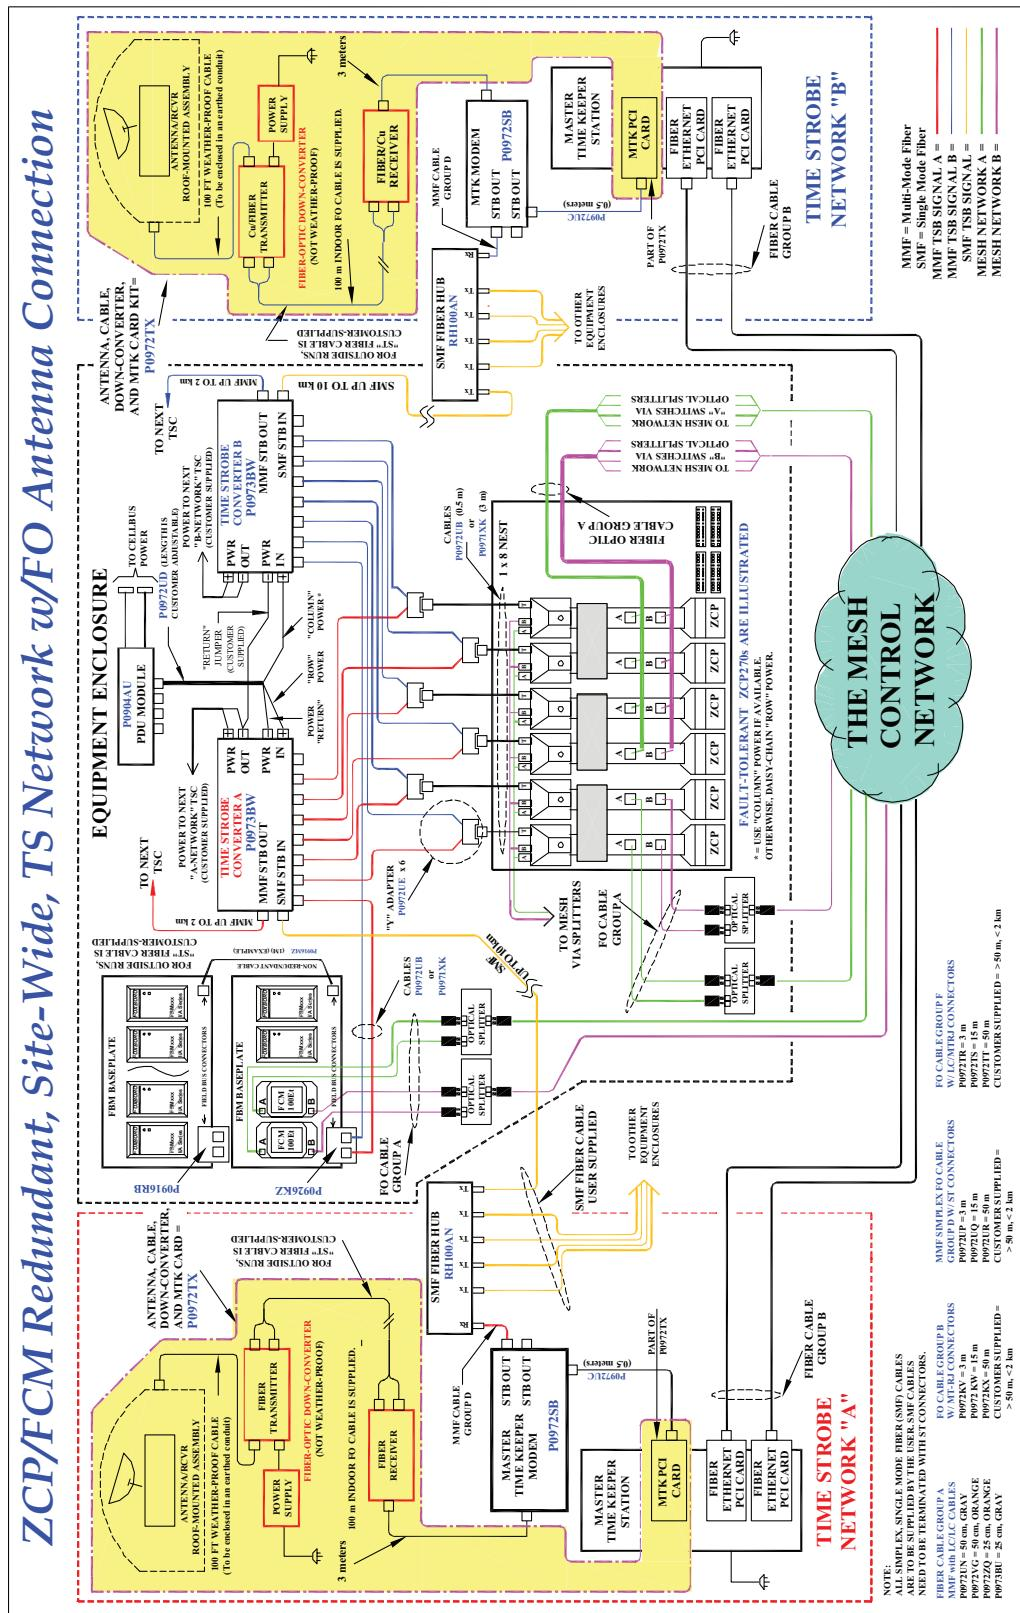

Figure A-11. Site-Wide Network - ZCP270 with Wire Antenna, Redundant Fiber Cabling
- ◆ Site-Wide Time Strobe Network - ZCP270 with Wire Antenna Connection, Redundant Fiber Cabling (Figure A-11).